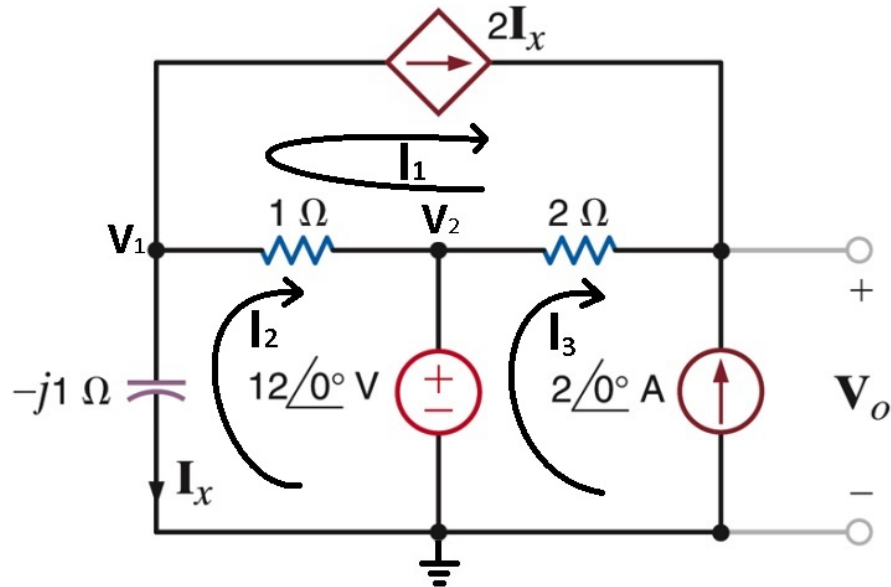

Figure 5: Circuit for Exercise 3
3) Write nodal equations for the circuit in Figure 5 (put in matrix notation). Solve your equations using MATLAB and calculate V_o . Repeat using mesh analysis. Include both your nodal and mesh equations, MATLAB code, MATLAB solutions (polar form), and any calculations required using your MATLAB solutions in your lab report.